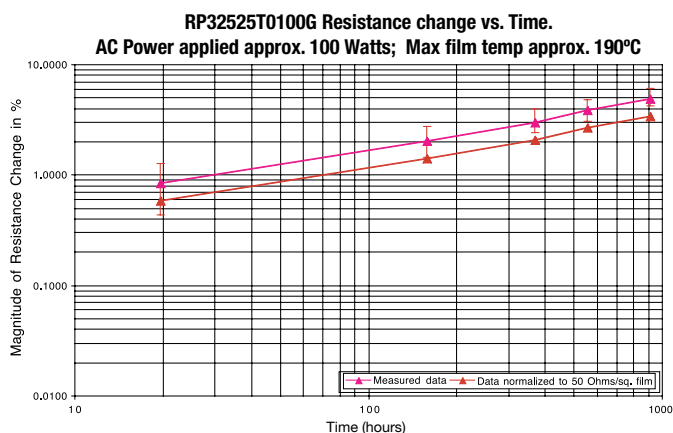

Figure 6: Percent resistance change of TaN resistors with applied 60-cycle AC power
**Figure 6** shows the average measured change in resistance of four 100-ohm, 60-Watt resistors selected at random from a production run and 60-cycle-AC power-aged for 907 hours. The test was done in accordance with MIL-PRF-55342, which requires power to be applied for 90-minute intervals alternating with power-off periods of 30 minutes – except that the Mil spec requires DC instead of AC. In order to magnify changes, sufficient power was applied to heat the resistive films to peak temperatures of about 190°C; this required about 100 watts, well in excess of the 60-watt maximum rating.